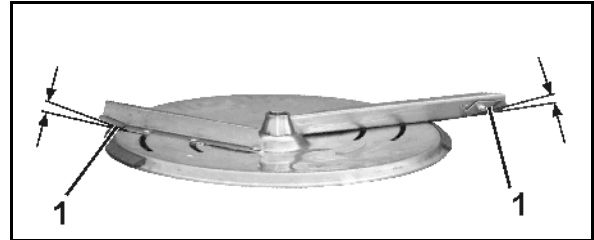

Fig. 53
3. Swivel the swivel blades (Fig. 53/1) of the spreading vanes to the required position for normal fertilising or late top dressing.